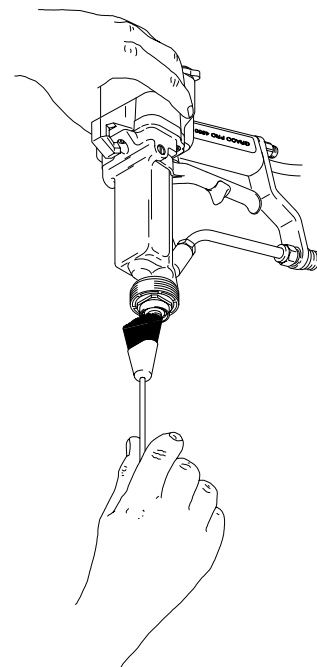

Fig. 7
- Do not use any cleaning method which may allow solvent into the gun air passages. Point the gun down while cleaning to prevent fluid from running into the air passages. See Fig. 7.
3. With the front of the gun pointed down, clean the air cap, fluid nozzle, and front of the gun, using a soft bristle brush and compatible solvent. See Fig. 7.